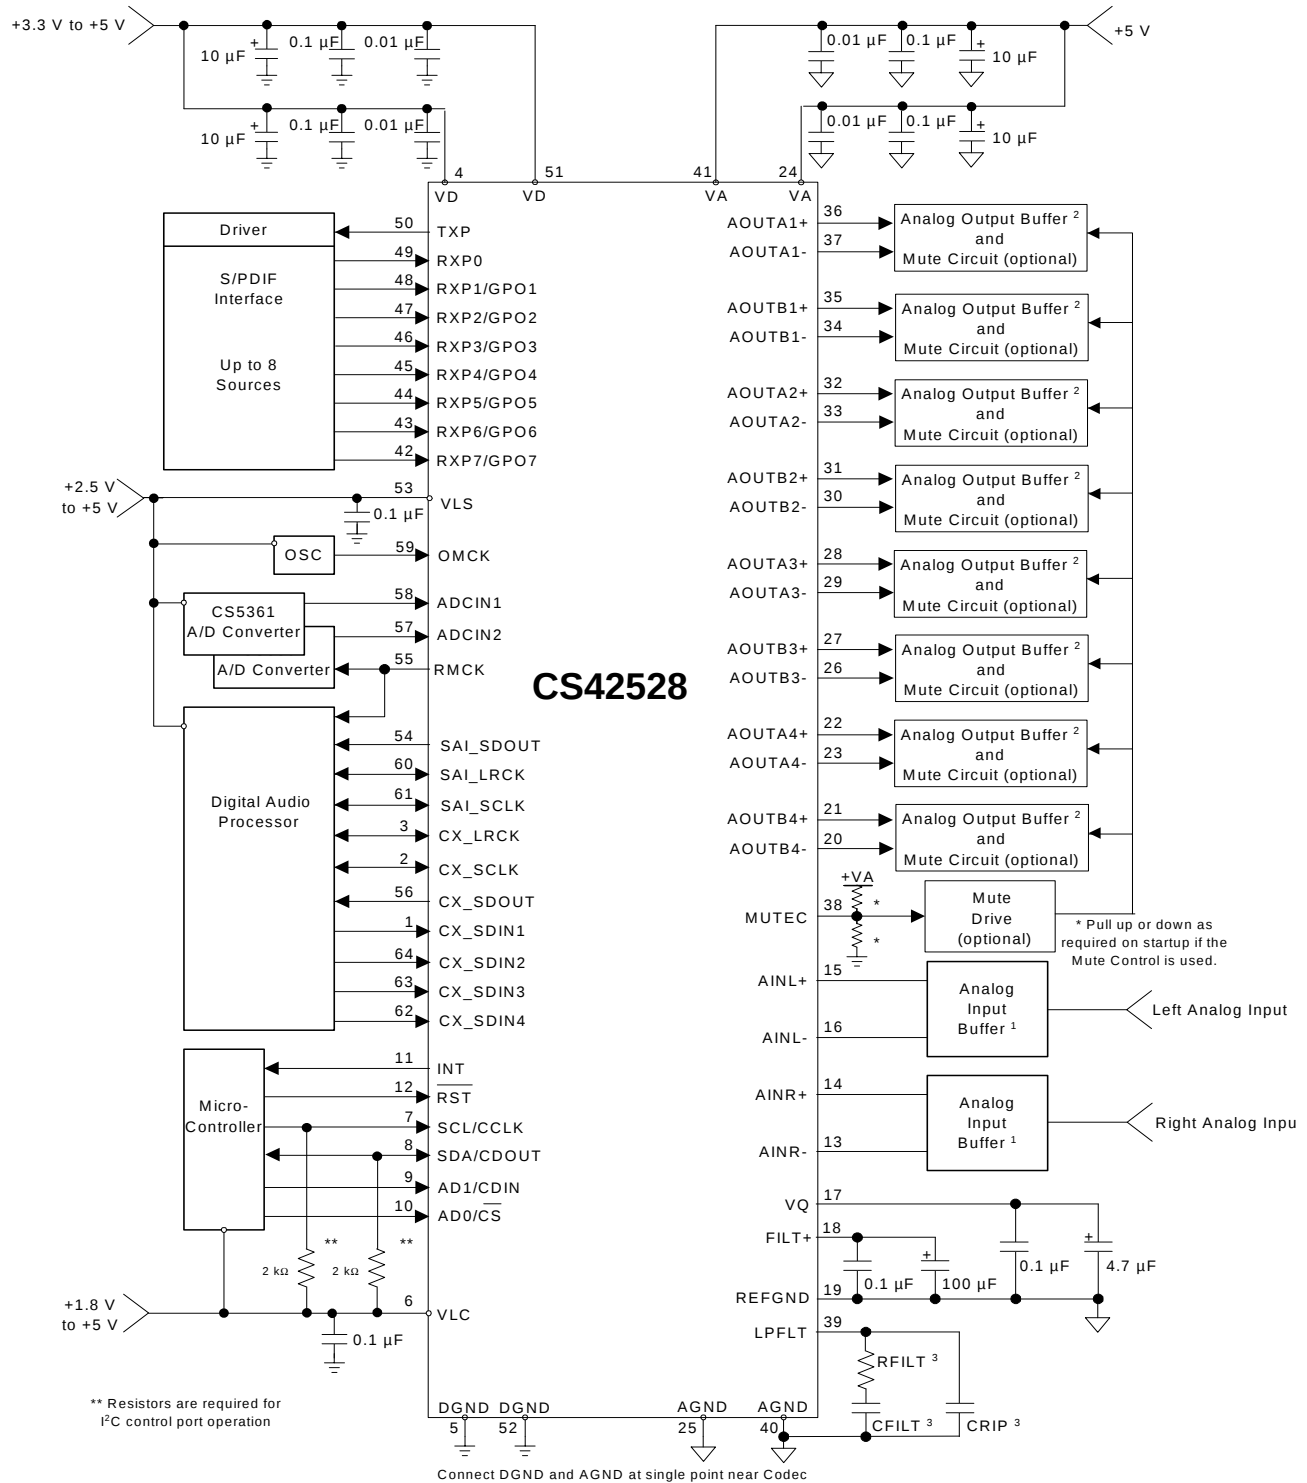

Figure 5. Typical Connection Diagram
26. Valid with the recommended capacitor values on FILT+ and V_Q as shown in Figure 5.
The CS42528 is a highly integrated mixed-signal 24-bit audio codec comprised of 2 analog-to-digital converters (ADC), implemented using multi-bit delta-sigma techniques, 8 digital-to-analog converters (DAC) and a 192 kHz digital audio S/PDIF receiver. Other functions integrated within the codec include independent digital volume controls for each DAC, digital de-emphasis filters for DAC and S/PDIF, digital gain control for ADC channels, ADC high-pass filters, an on-chip voltage reference, and an 8:2 mux for S/PDIF sources. All serial data is transmitted through two configurable serial audio interfaces with standard serial interface support as well as enhanced one-line modes of operation, allowing up to 6 channels of serial audio data on one data line. All functions are configured through a serial control port operable in SPI mode or in I²C mode. Figure 5 shows the recommended connections for the CS42528.